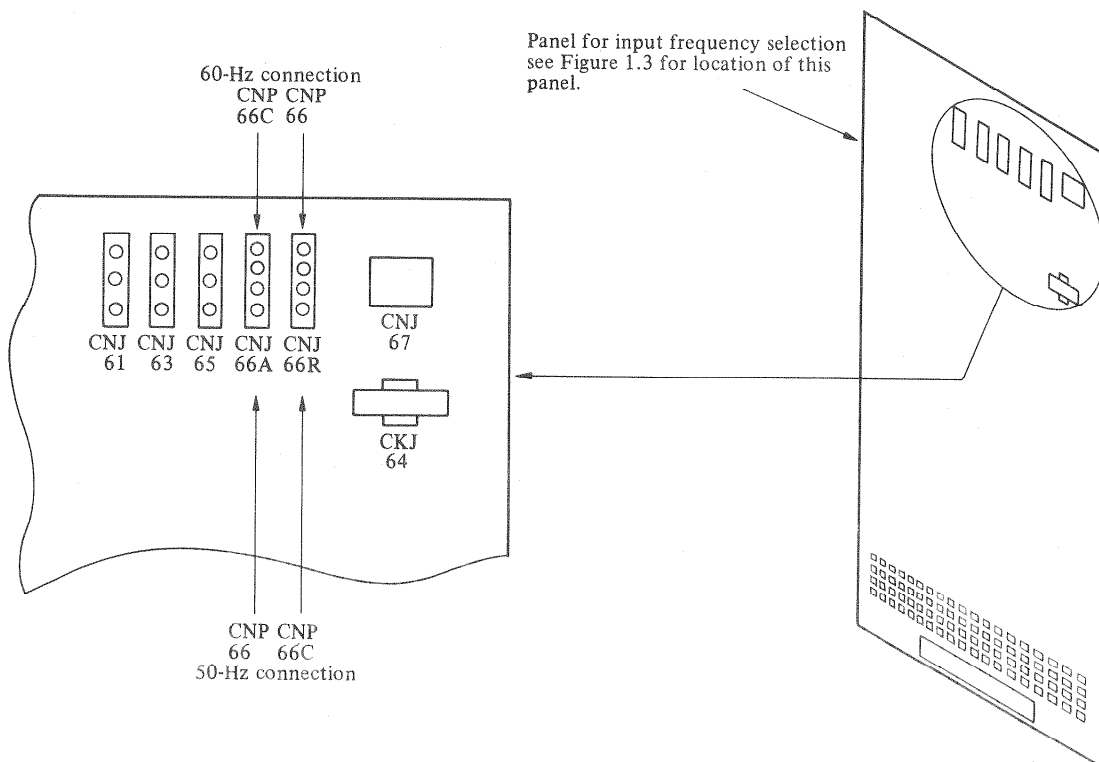

Figure 2.4 Input power frequency setting
- (3) For 60-Hz input, verify that CNP66 is connected to CNJ66B and that CNP66C is connected to CNJ66A. These connections are shown in Figure 2.4.
For 50-Hz input, verify that CNP66 is connected to CNJ66A and that CNP66C is connected to CNJ66B. These connections are also shown in Figure 2.4.